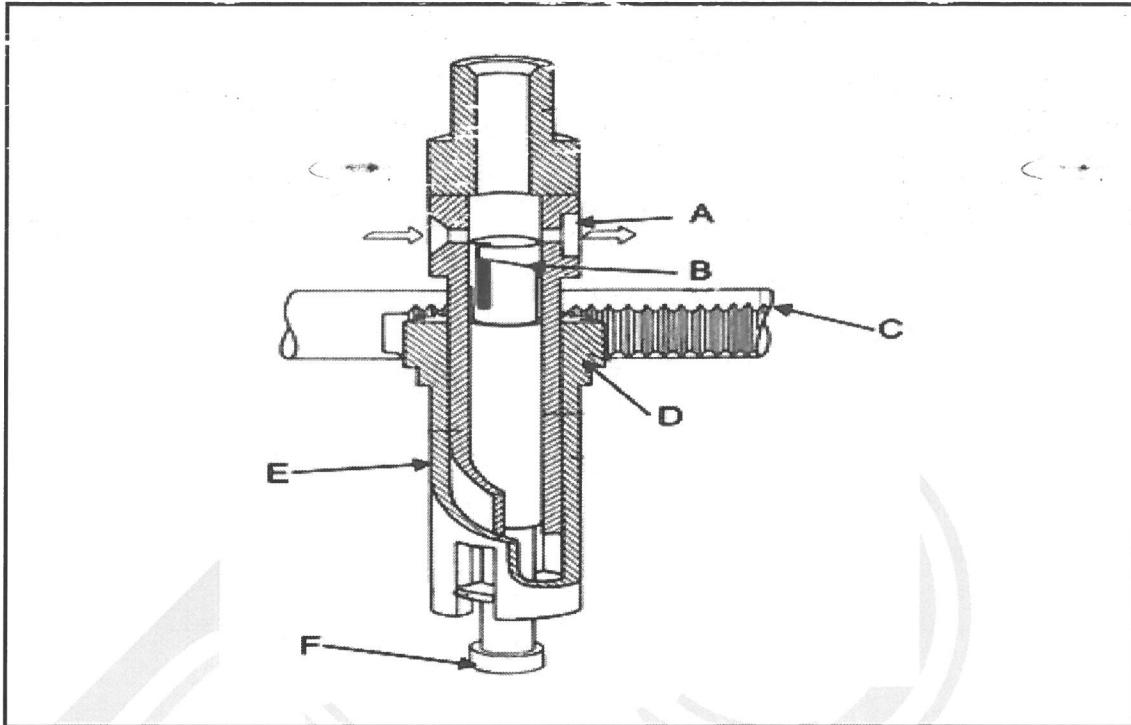

FIGURE 1
3.1 FIGURE 1 below shows a sectional view of a plunger unit of an inline injection pump.